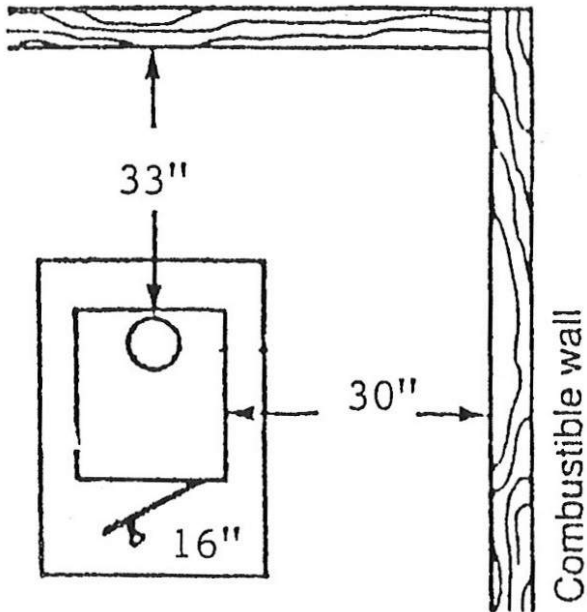

FIGURE 1
1. Clearances shown in Figures 1 and 2 are for your protection.